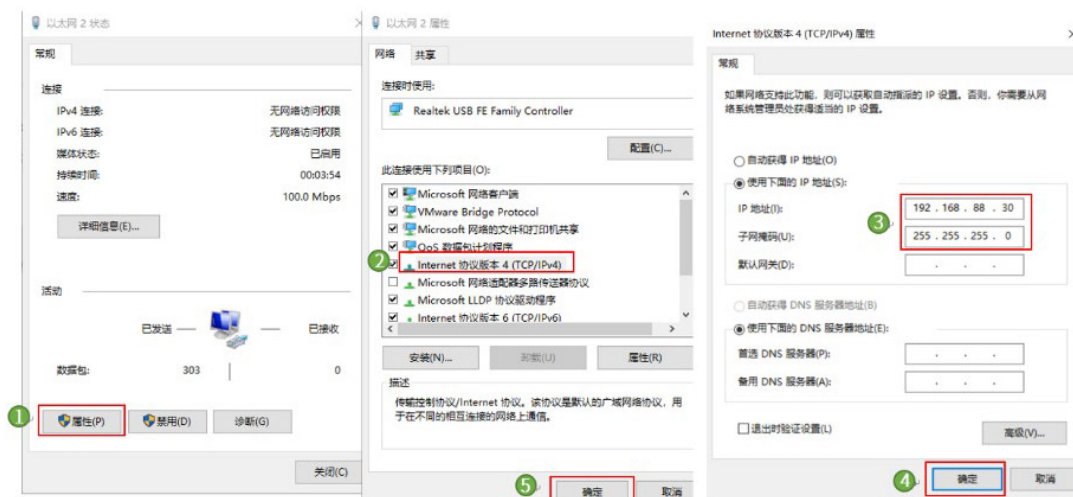

Figure 13-4 Project description
1. The default IP address of PORT1 is 192.168.188.100, the default IP address of PORT2 is 192.168.88.100 in Q1-1300-D. PORT2 used in this example. In the Ethernet settings, click [Properties] → [Internet Protocol Version 4 (TCP/IPv4)] → to modify the IP address of the host controller so that it is in the same network segment as the IP address of Q1-1300-D (the IP address set here cannot be the same as the IP address of Q1-1300-D), and finally click [OK], as shown in Figure 13-4.